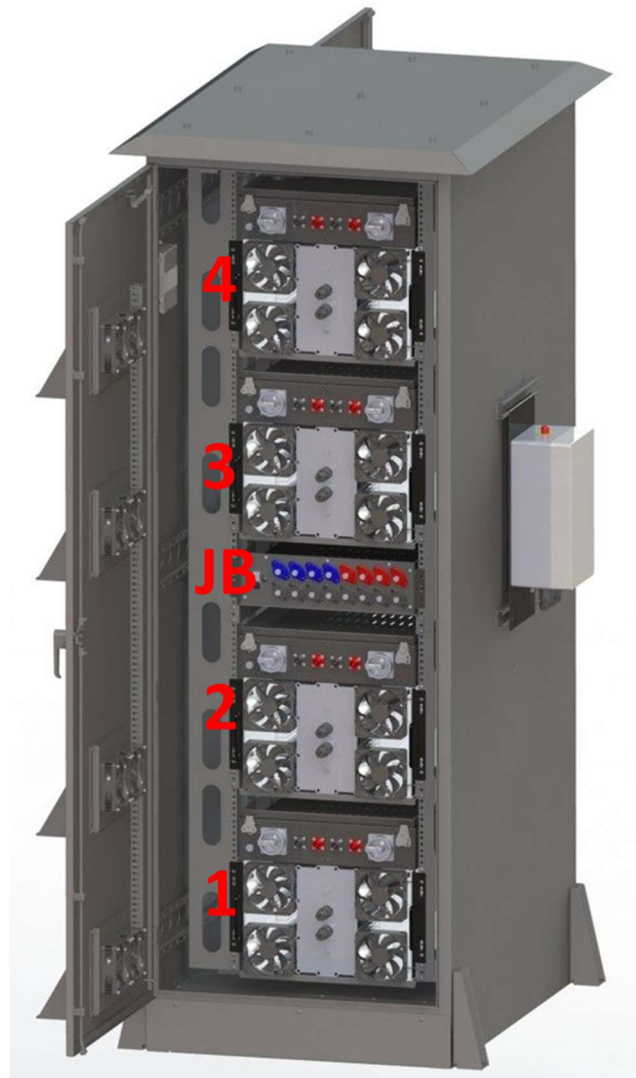

FIGURE 14: SPOT PLACEMENT MAP
- SPOT/BOSS units may have a designated place within the cabinet, denoted by a numbered label on the SPOT/BOSS front face which should be matched to the diagram in Figure 14.
- Use (4) #10-32 x 1/2" screws to secure each SPOT/BOSS unit to the rack through the mounting brackets.